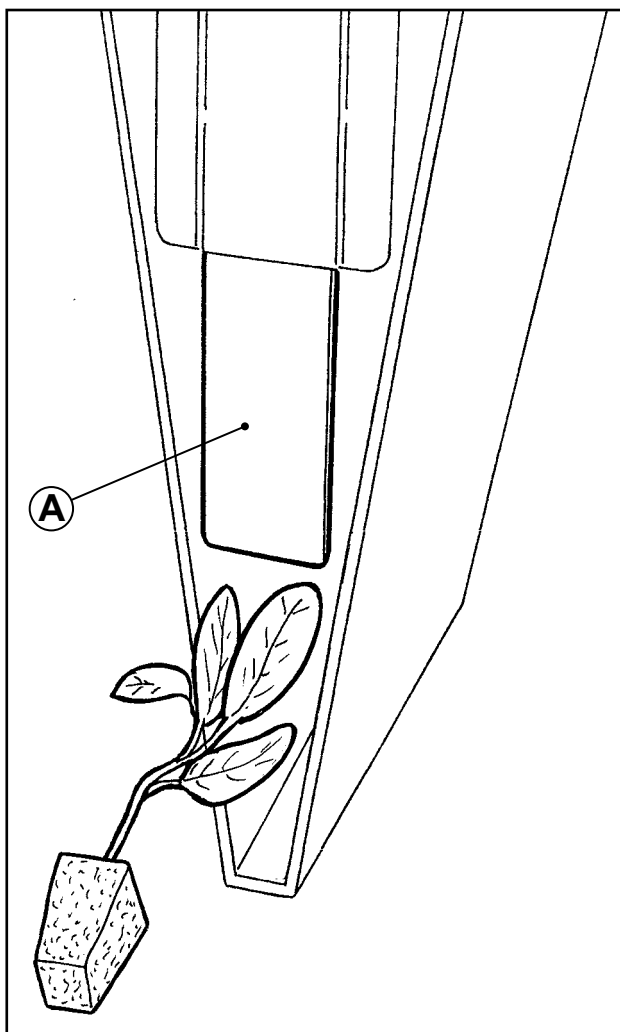

Fig. 1
If pallet (A) is set too low and the seedling is very high, it can happen that during the transplanting, the seedling folds over itself in the direction of movement, as indicated in **Fig. 1**; on the contrary, if the pallet is set too high and the seedling is low, it can happen that during advancement, the seedling can escape the plow and cause non-uniformity in transplants or hedges in the same part of the soil.